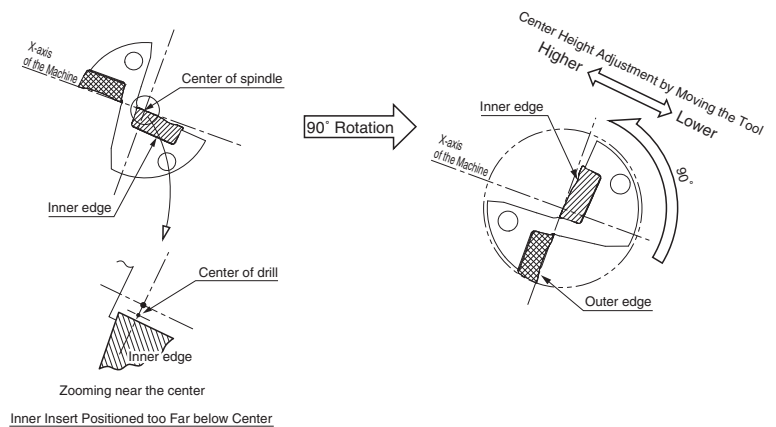

Fig. 9
- If the core diameter becomes too large after the above adjustment, install the drill by rotating 90° counter-clockwise as shown in Fig. 9 (outer insert is positioned lower) and adjust the center height by moving the tool in the X-axis direction.